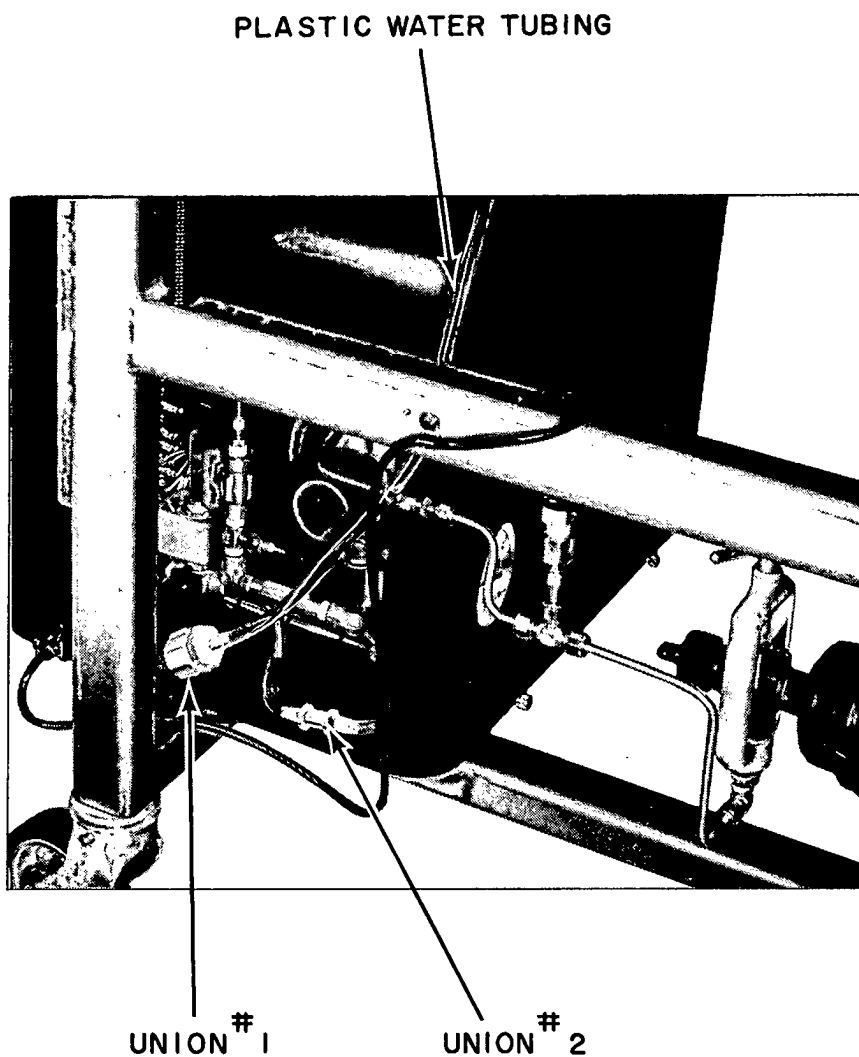

Figure 4.3 REAR VIEW OF PROCESSOR SHOWING LOCATION OF SOME WATER SUPPLY SUBSYSTEM COMPONENTS
- D. Plastic Water Tubing and Unions (Figure 4.3) - Feeds water from primary reservoir to solenoid and hence to secondary reservoir.
- A. To drain Primary Reservoir, disconnect union #1 (Figure 4.3) and drain into waterproof container.
- B. To drain Secondary Reservoir, disconnect union #2 (Figure 4.3) and drain into waterproof container.
4. Disconnect primary water reservoir at union #1 (Figure 4.3).
4. Drain water supply subsystem and disconnect at union 2 (Figure 4.3).